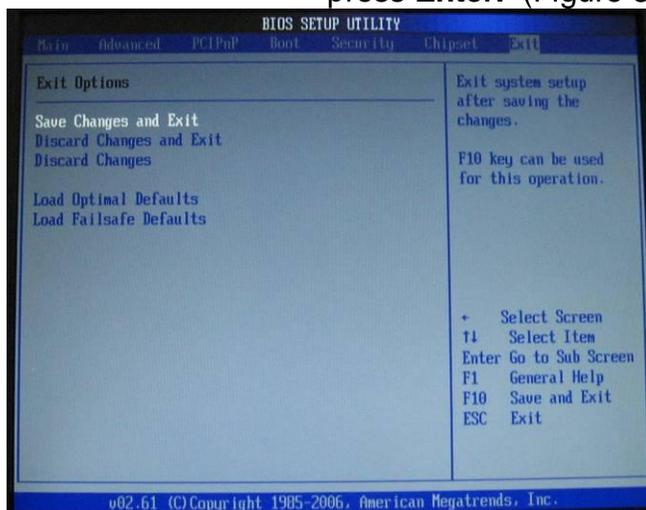

Figure 8-57 Save Changes and Exit Screen
47. Scroll over to the **Exit** tab and press **Enter**. Select **Save Changes and Exit**. Then press **Enter**. (Figure 8-57).